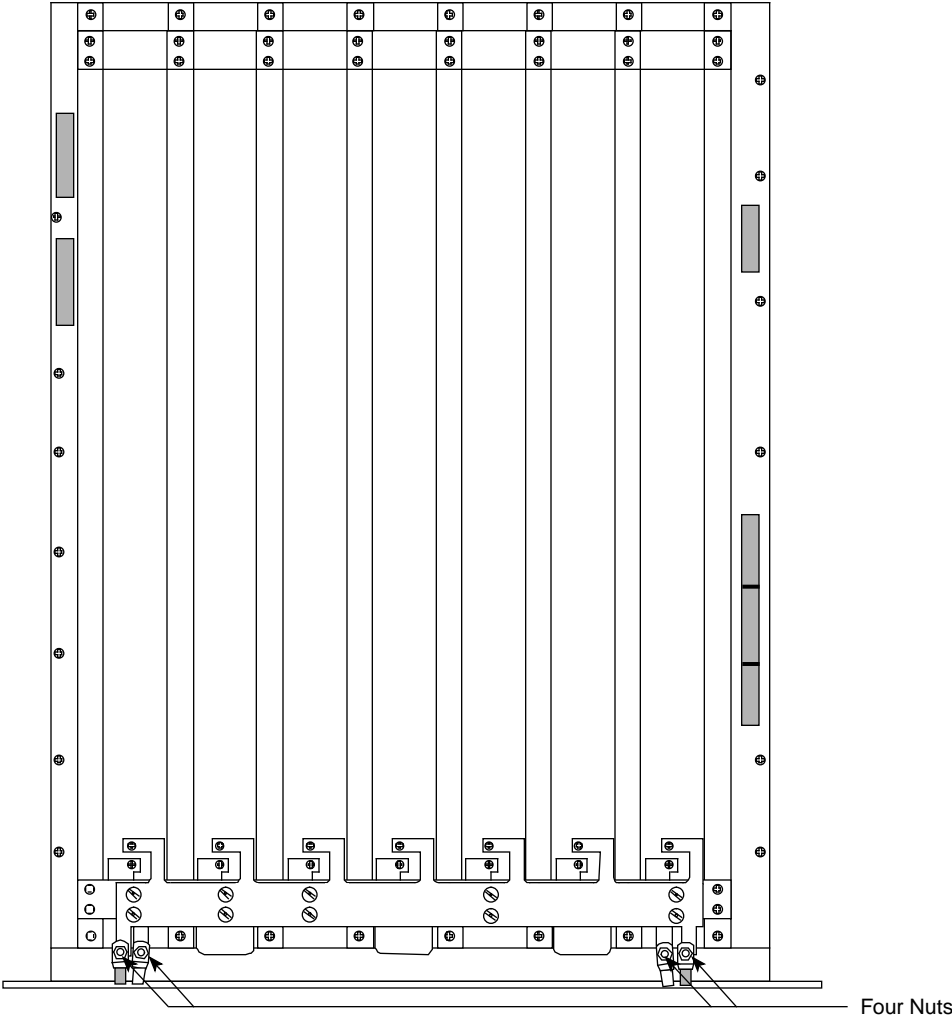

Figure 2. CRAY J916 Backplane
1. Remove the 29 perimeter screws that secure the backplane to the chassis. Remove the middle top screw last while supporting the backplane at the same time. Refer to Figure 2.